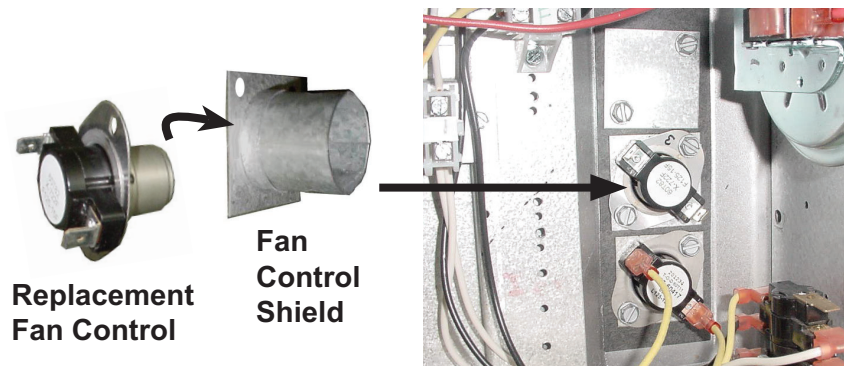

Figure 29. Replacement Fan Control and Fan Control Shield
6. Install replacement fan control (see Figure 29):